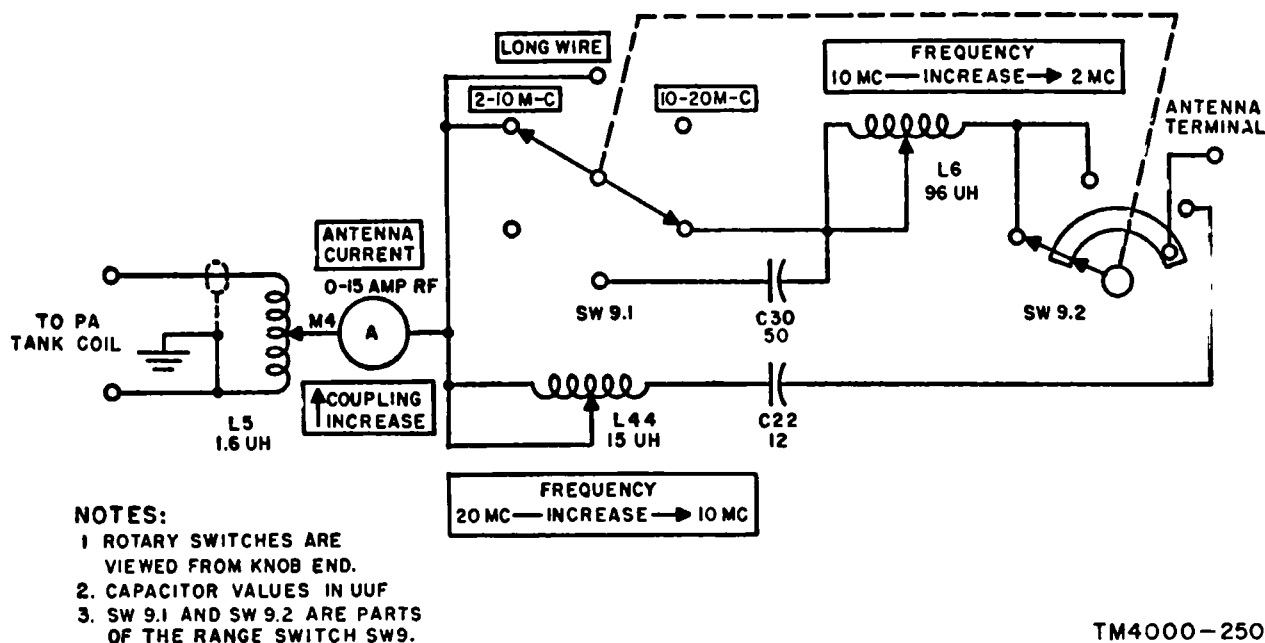

Figure 76. Typical antenna tuning unit.
a. If all observations show that the transmitter is normal but that there is no antenna current, the trouble must be in the antenna tuning unit (fig. 76), or else the antenna is disconnected.